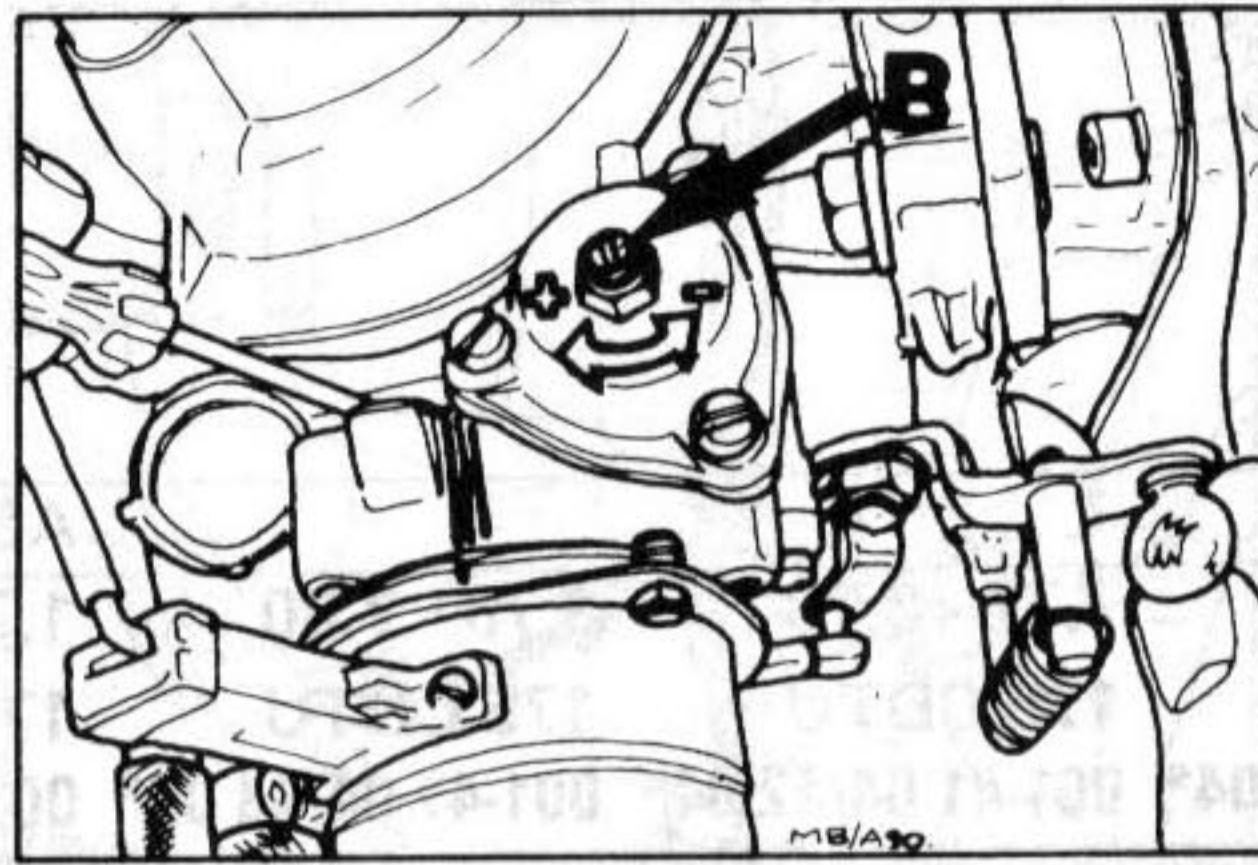

Fig. 6 Warm-up CO adjustment
- Increase engine speed to 2000 - 2200 rpm by lifting throttle valve lever. Using a small screwdriver inserted through slot in top of choke housing, push drive lever inside choke housing in direction of engine up to noticeable stop at pull-down diaphragm rod (Fig. 6).
- g) If outside specified limits, adjust by slackening locknut at adjusting screw (B) on top of choke diaphragm housing and turning screw within permissible adjusting range to attain correct setting (Fig. 6).